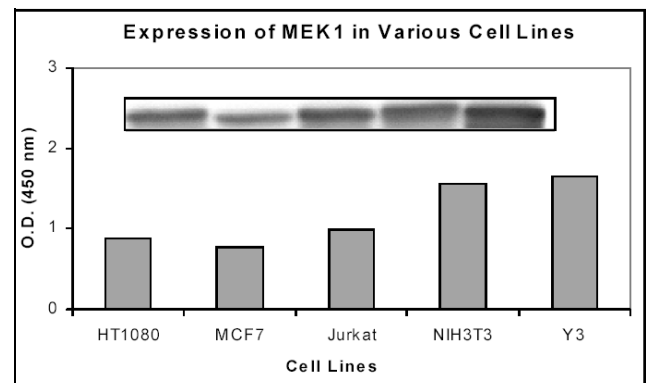

Figure 3
- The data presented in Figure 3 show that the kit detects MEK1 in human cell lysates HT1080, MCF7, and Jurkat, mouse cell lysate NIH3T3, and rat cell lysate Y3. The levels of MEK1 protein detected with this ELISA kit are consistent with results obtained by immunoblot analysis (see inset).